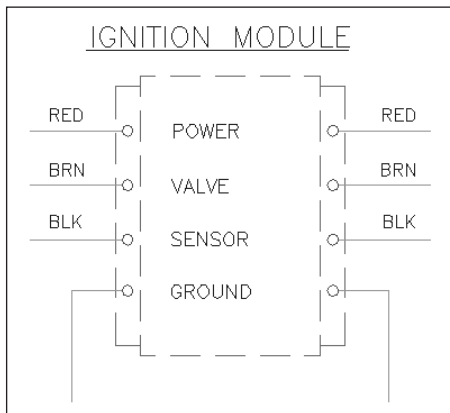

Figure 13-22: The text on the right was mirrored with MIRRTEXT set to 0.
8. Repeat the mirror operation using the same instructions as in Step 5. This time AutoCAD mirrors the objects, but the text reads properly, as shown in Figure 13-22.